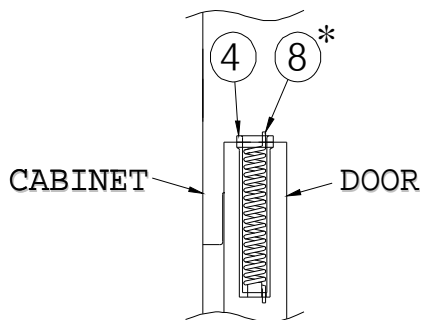

Figure 3.
- c) Insert Spring (#8) (silver) into Spring Guide (#4) as shown in figure 3–(SEE 146442 HINGE KIT)